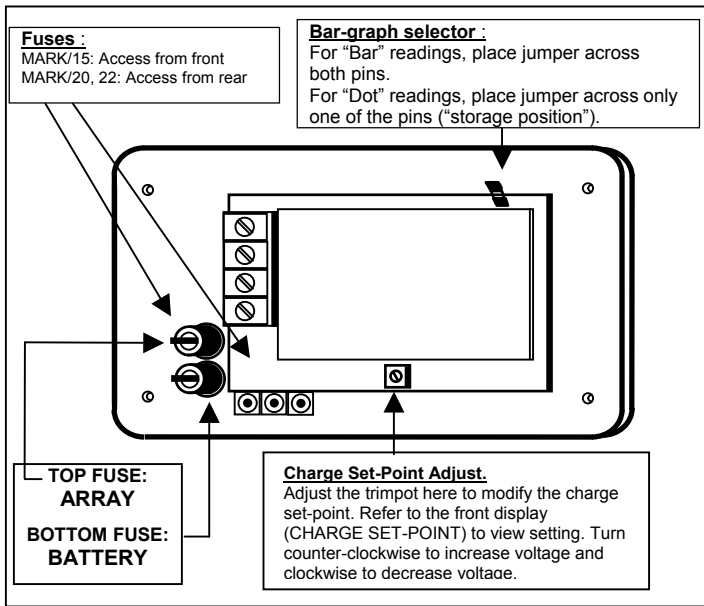

FIGURE 1 MARK/(15,20,22) CHARGE CONTROLLER
12. MARK/(15,20,22) CONNECTION: - Wire the MARK/(15,20,22) according to **Figure 1**. The wires should be connected directly to the MARK/(15,20,22) screw terminals (no spade or ring lugs). Tighten securely.